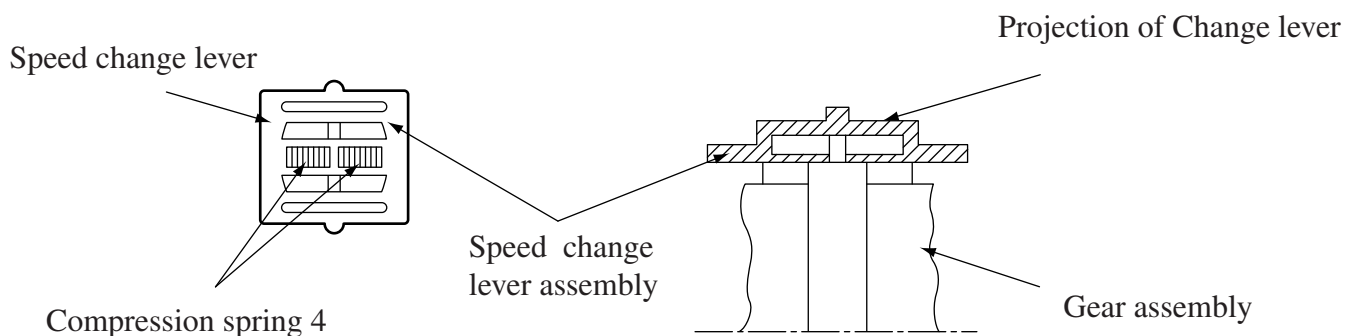

Figure 3
- 2) Being careful that Compression spring 4 may not come out, install Speed change lever assembly in the projection of Change lever as shown in Figure 3.